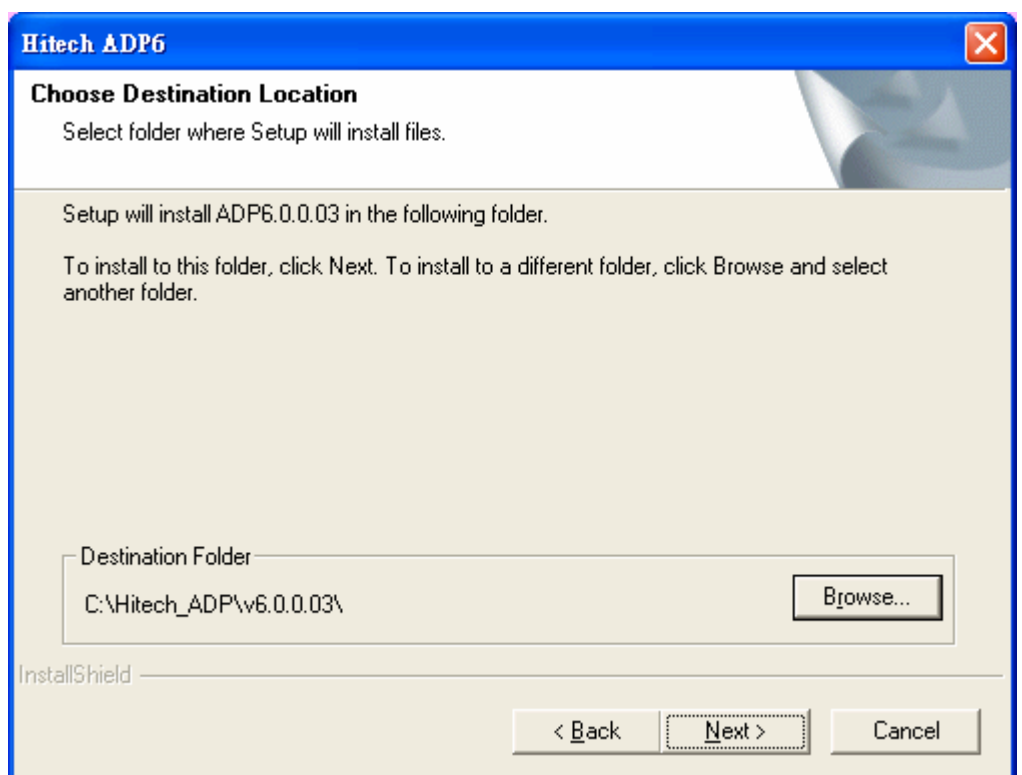

Figure 3. The destination hard drive and the directory
4. Follow the instructions and specify the hard drive and the directory which the ADP will be installed to. See Figure 3.